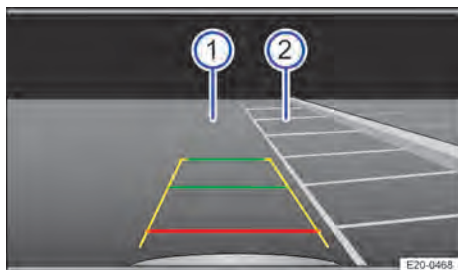

Fig. 127 Infotainment system screen display: Choose parking space.
- Position the vehicle in front of the parking space → Fig. 127 ②.